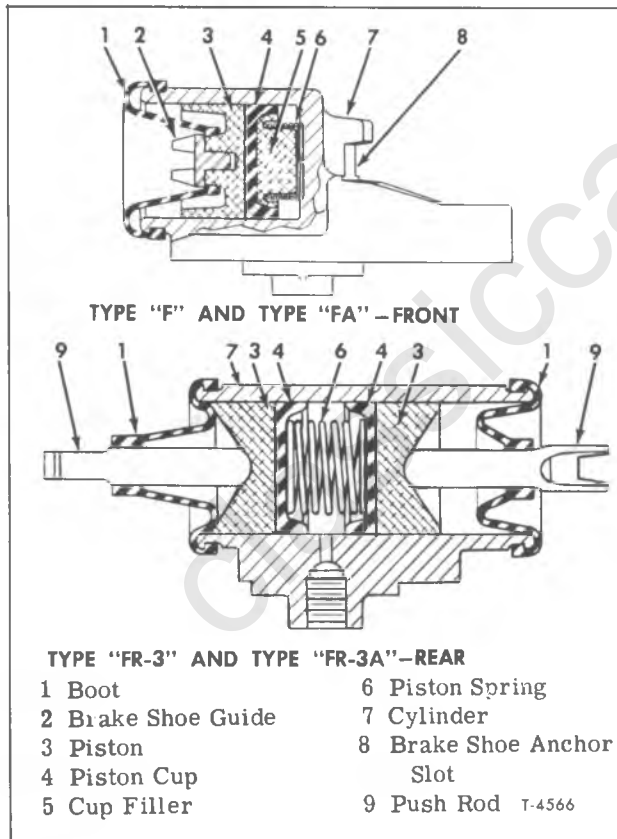

Figure 18—Wheel Cylinders Used with Type "F," "FA," "FR-3," and "FR-3A" Brakes
TYPES "F" AND "FA" (Fig. 18)
TYPES "FR-3" AND "FR-3A" (Fig. 18)
2. Assemble push rods and boots, then install on cylinder. Seat boots evenly in cylinder grooves. Align push rod slots as shown in figure 18.